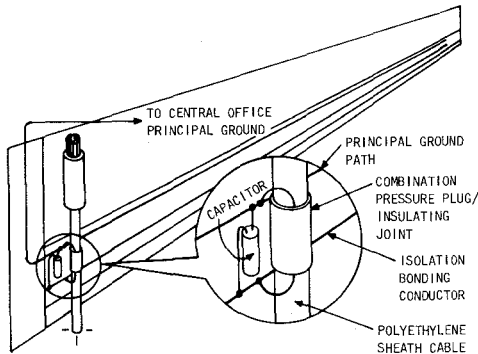

Fig. 2—Vertical Entry (Location of Combination Pressure Plug/Insulating Joint)
2.02 In vaults having vertical cable entry (Fig. 2) with limited cable length in the vault, the combination pressure plug/insulating joint with capacitor may be used if it can be located at least 5 inches from the tip splice and air inlet flange.